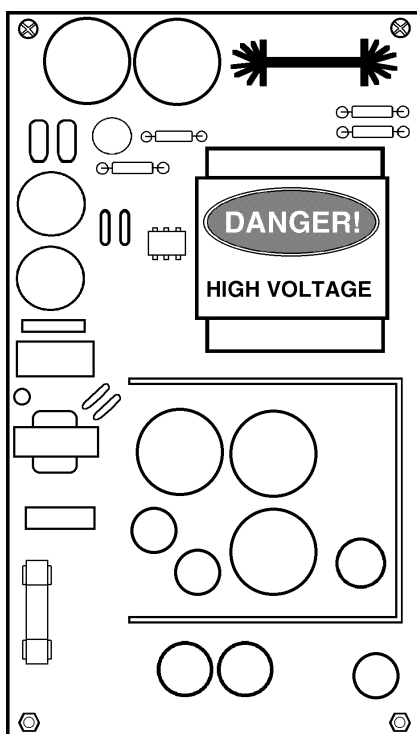

Fig. 3-8 Low Voltage Power Supply board.
9. Disconnect all leads to the Low Voltage Power Supply (LVPS) board. Ensure all cables are properly labeled for reconnecting later. Fig. 3-8 shows all cable numbers and the locations on the LVPS board.